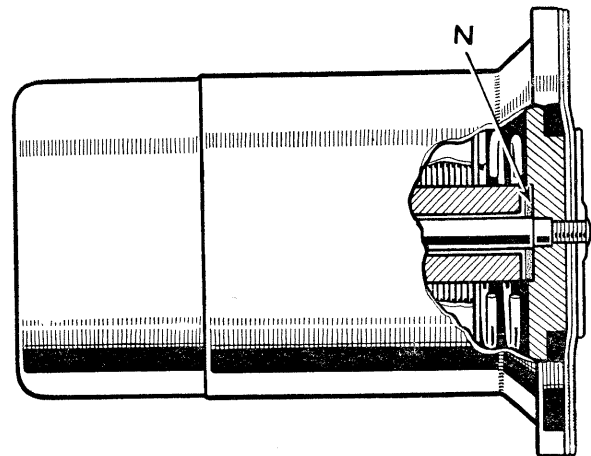

Fig. M-17—Armature impact washer
3. If necessary, remove the impact washer (Fig. M-17) from the recess of the armature.